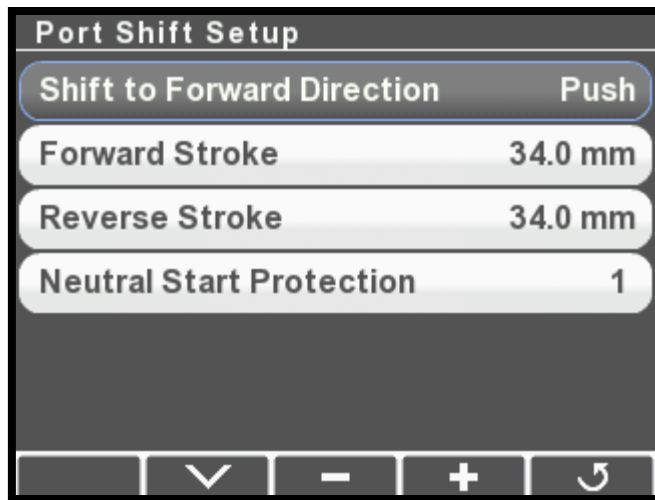

Figure 4-7.
6. For the shift actuator(s), set the Shift to Forward Direction parameter to Push or Pull (see figure 4-7) to match the direction the actuator is required to move to engage *forward* gear. Don't adjust the other parameters yet.